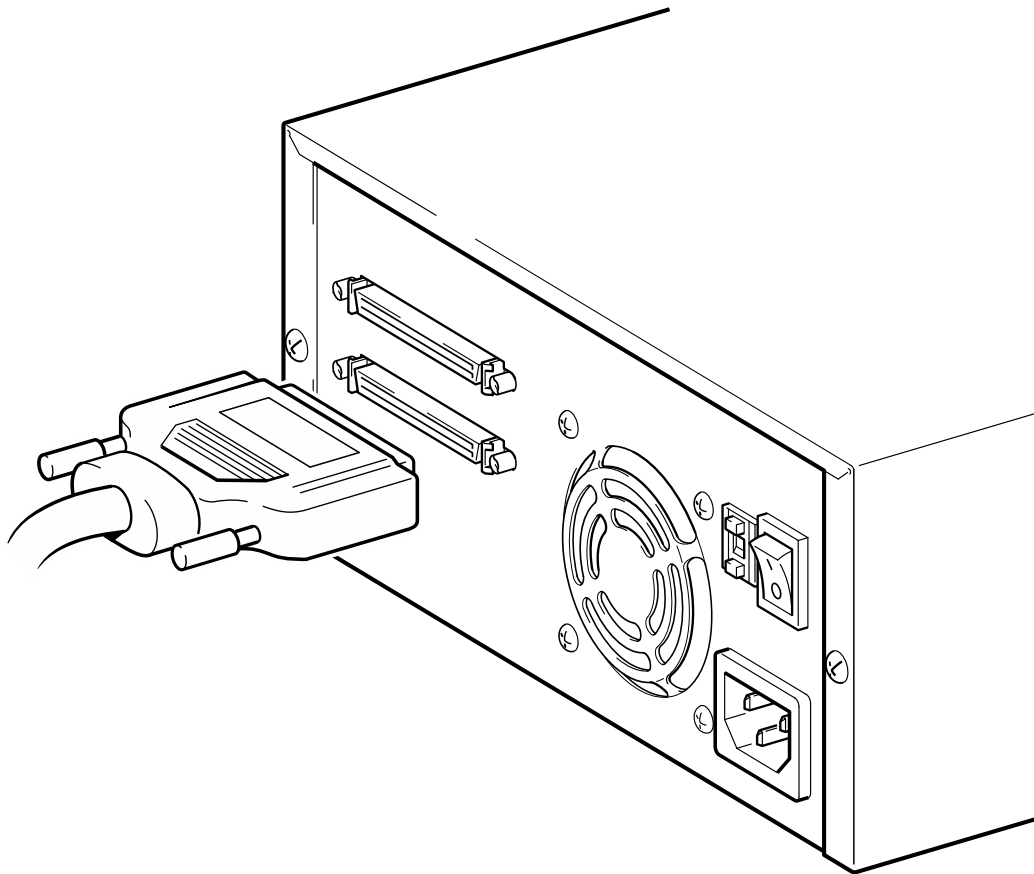

Figure 2: connecting the SCSI cable
- 2** Attach one end of the SCSI cable to the connector on the SCSI host adapter and secure it by tightening the screws, as shown on figure 2.